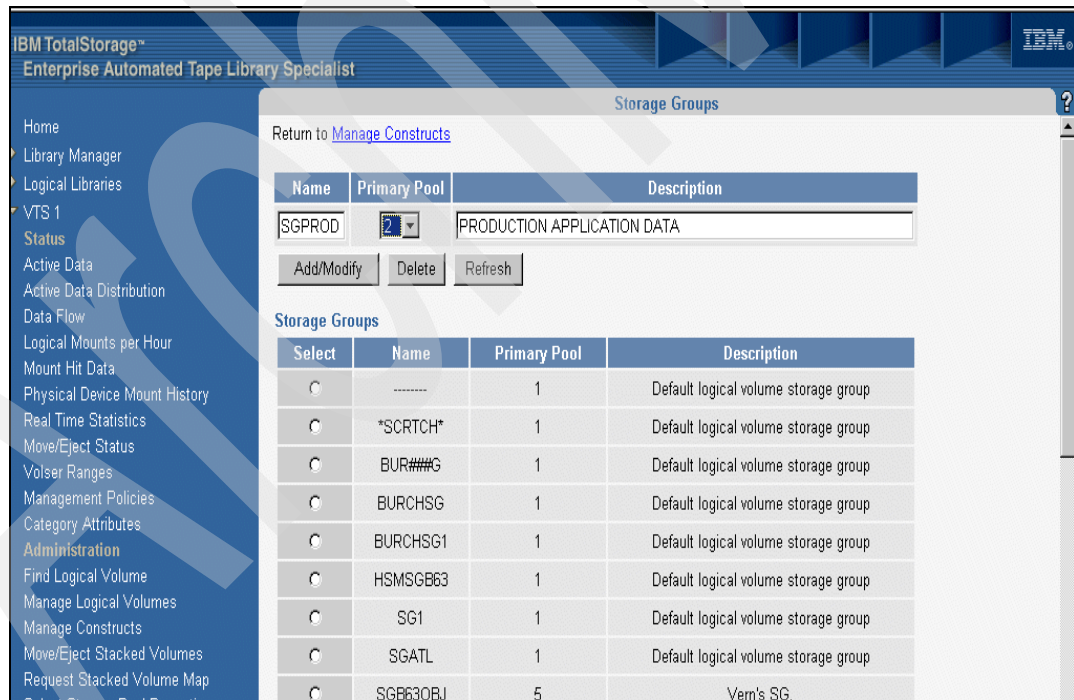

Figure C-13 3494 Specialist Manage Storage Groups - APM setup
- **SGPROD** will be assigned Primary Pool **02**. This pool will contain logical volume production application data (Figure C-13).